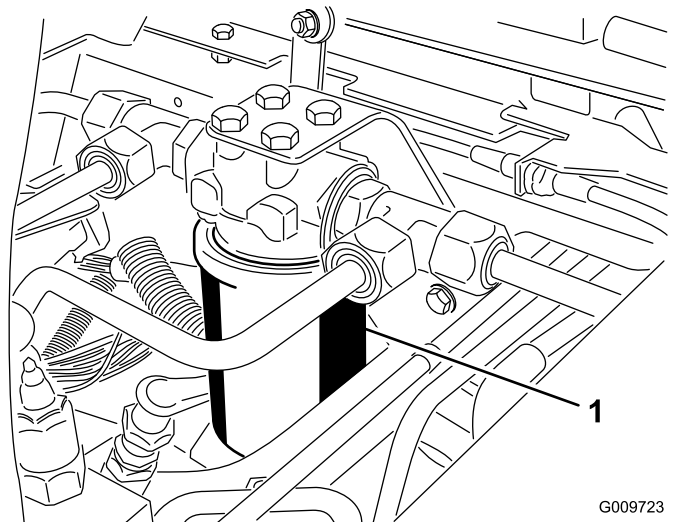
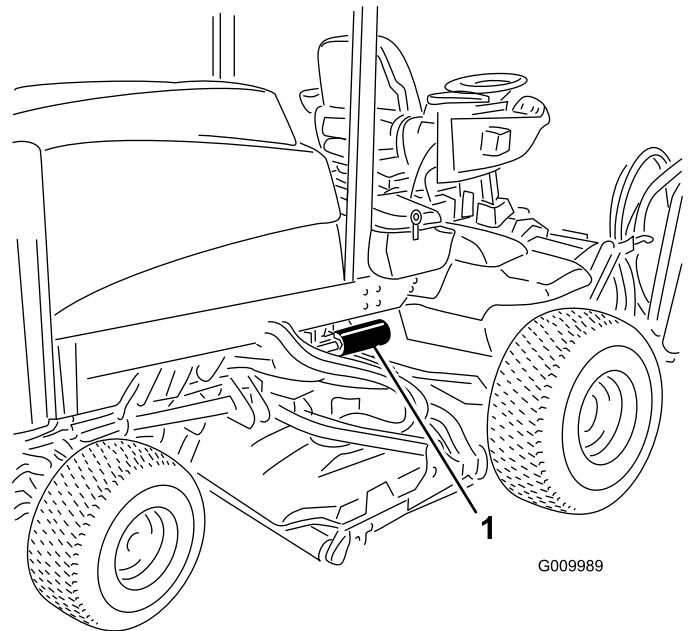

Figure 54
Figure 55
3. Place a drain pan under the filter and remove the filter (Figure 54 and Figure 55).